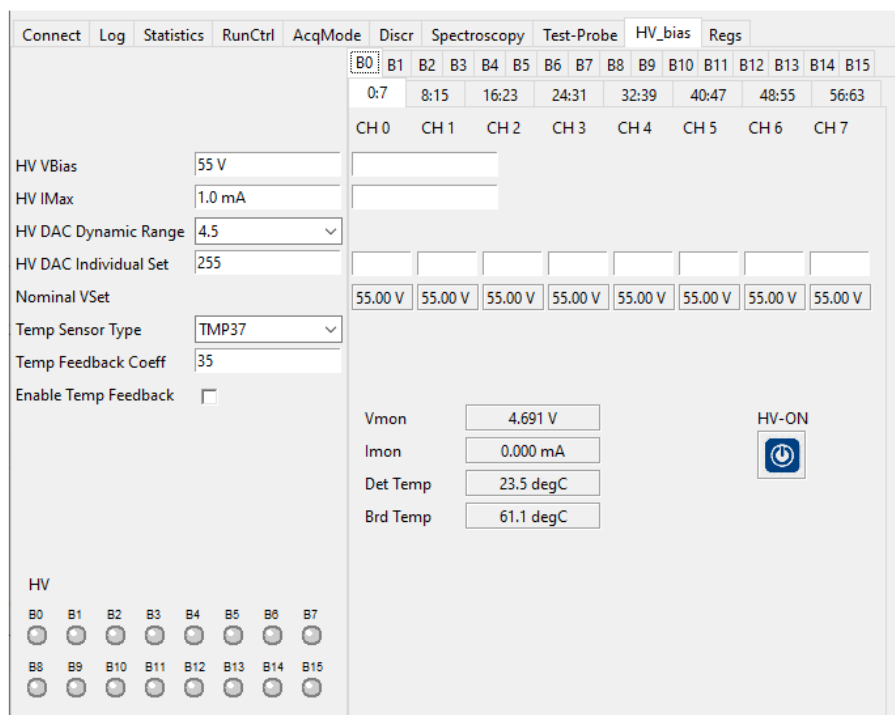

Fig. 10.35: The HV_bias tab of the Janus software.
1. Once the connection between the board and the software is established (see Sec. 10.3), the user has to select the "HV_bias" tab of the Janus software. A graphic interface similar to that in Fig. 10.35 will be opened.